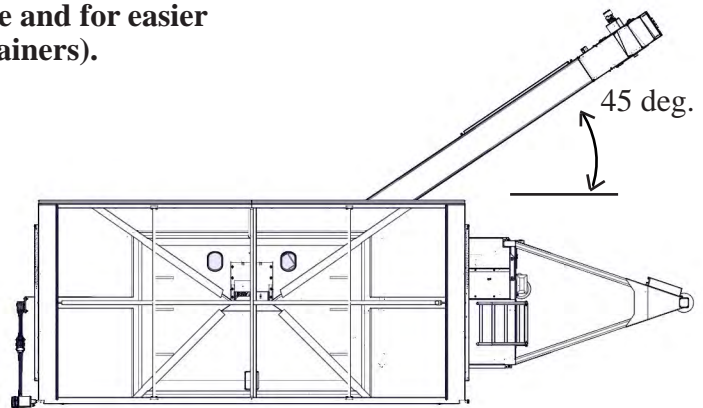

Figure 1.8
5. Rotate the conveyor to 45 deg. (Figure 1.8)
18. With the Boom Arm at a 45 deg. angle, swing the conveyor/auger back into the resting position on the boom arm (Figure 1.8).
4. Rotate the conveyor to 45 deg. (Figure 1.8).
15. With the boom arm at a 45 Deg. angle, swing the conveyor/auger back into the resting position on the boom arm (Figure 1.8).